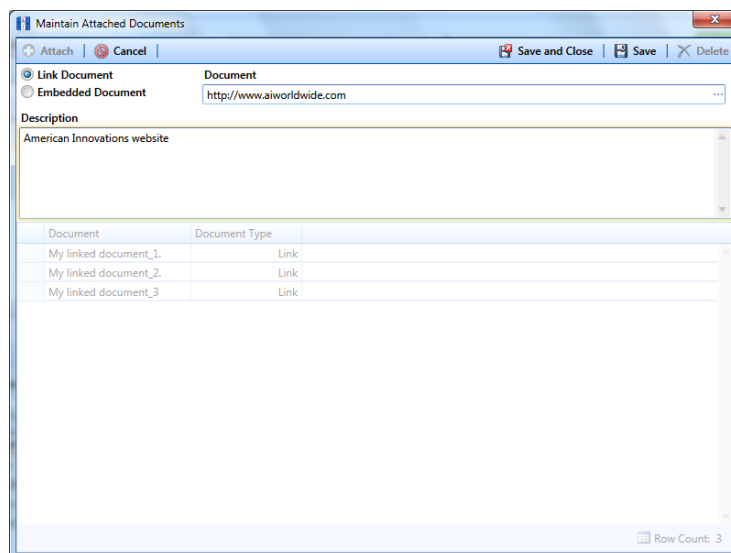

Figure 6-85. Maintain Attached Documents
- 8 If you selected *Link Document* in step 6 and want to add a link to a webpage on the Internet, follow these steps (Figure 6-85):